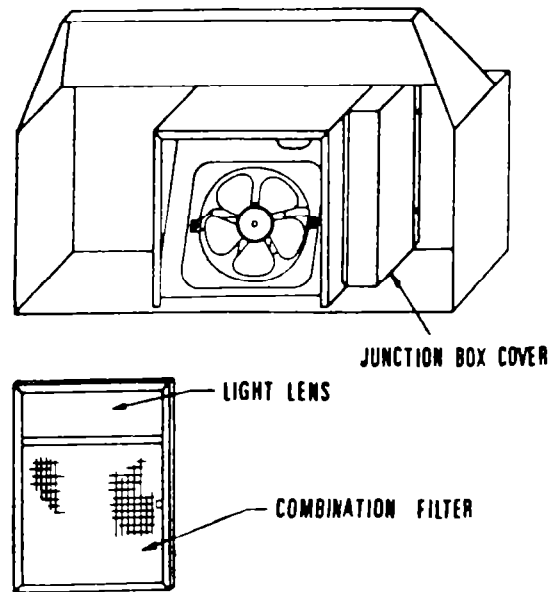

Figure 2
4. Remove screws holding junction box cover. See Figure 2.
10. Replace junction box cover. See Figure 2.